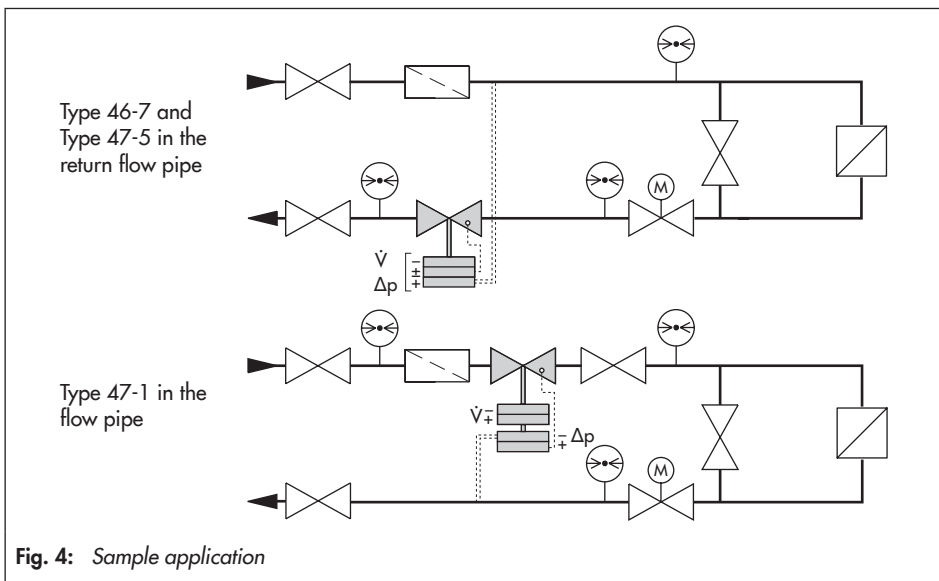

Fig. 4: Sample application
Install a hand-operated shut-off valve both upstream of the strainer and at the outlet of the return flow pipe (see Fig. 4). This allows the plant to be shut down for cleaning and maintenance, and when the plant is not used for longer periods of time.
Install a pressure gauge at a suitable point to monitor the pressures prevailing in the plant (see Fig. 4).
- ➔ Refer to installation schematics (Fig. 4) for line routing.